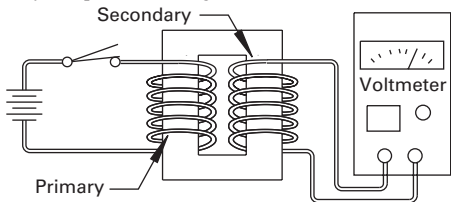

FIGURE 9-15: A Simple Transformer
Consider two windings around the same core as shown in figure 9-15. The winding connected to a power source is called the **primary** winding and the other winding connected to a load (voltmeter in this case) is called the **secondary** winding.
- The windings won't actually be configured as shown in figure 9-15, rather they might be wound one over the other or interleaved in layers to increase efficiency.